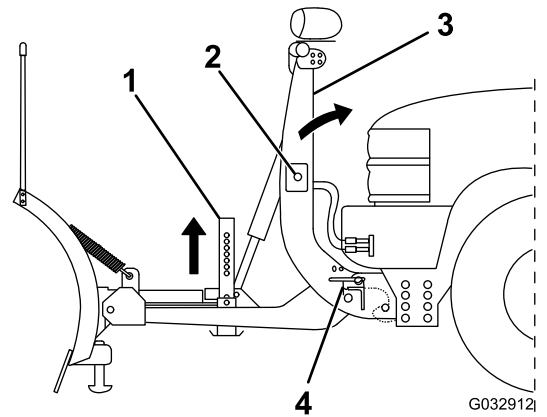

Figure 28
- Push the SmartHitch2 switch on the side of the coupler tower upward and raise the tower until the spring pins snap in (Figure 28).
8. Pull the kickstand spring pin outward and raise the kickstand, then release the spring pin to secure it (Figure 28).